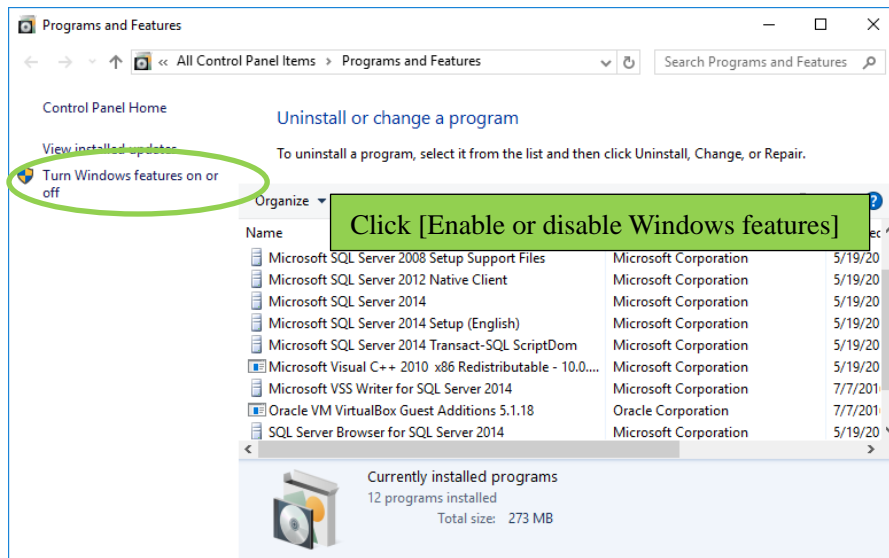

Figure 2.2 Click [Enable or Disable Windows Features]
(2) Click [Activate or deactivate Windows functions] on the upper left of the window (Figure 2.2)